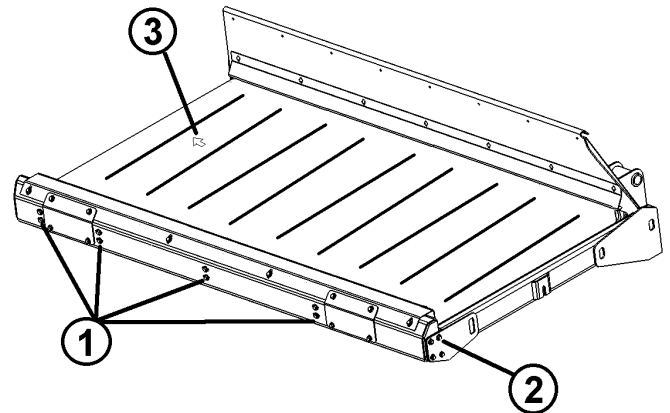

Figure 1. Skid Plate Removal
Remove the skid plate by removing the twelve (12) bolts that retain the skid plate to the front of the belt frame as shown in Figure 1.
Install the skid shoe and bolts (Figure 1, Keys 1 and 2).